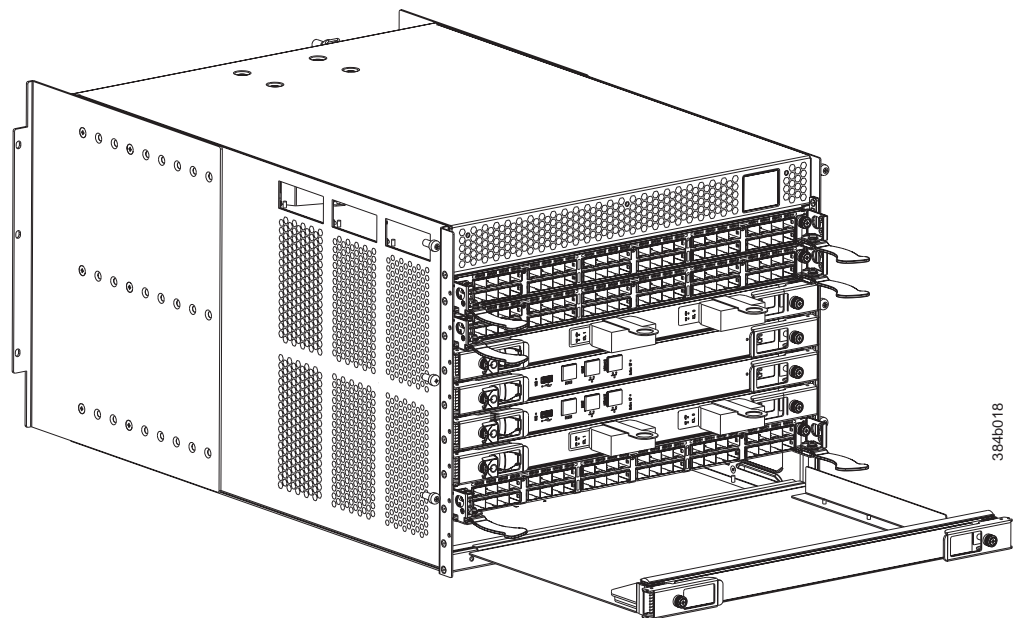

Figure 33. Filler panel removal and installation
3. Pull the filler panel out of the chassis, using the handles on the filler panel. (See Figure 33.)
1. Orient the filler panel in front of the empty slot (see Figure 33).